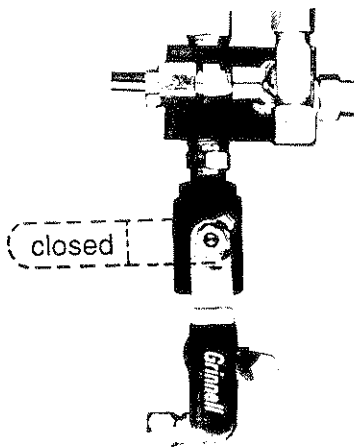

Fig. 12
1. Turn the ball valve to the "CLOSED" position, see Fig. 12.
5. After cleaning the bale chamber, turn the ball valve to the "OPEN" position, see Fig. 12. NOTE: Failure to do so will result in lack of density pressure.